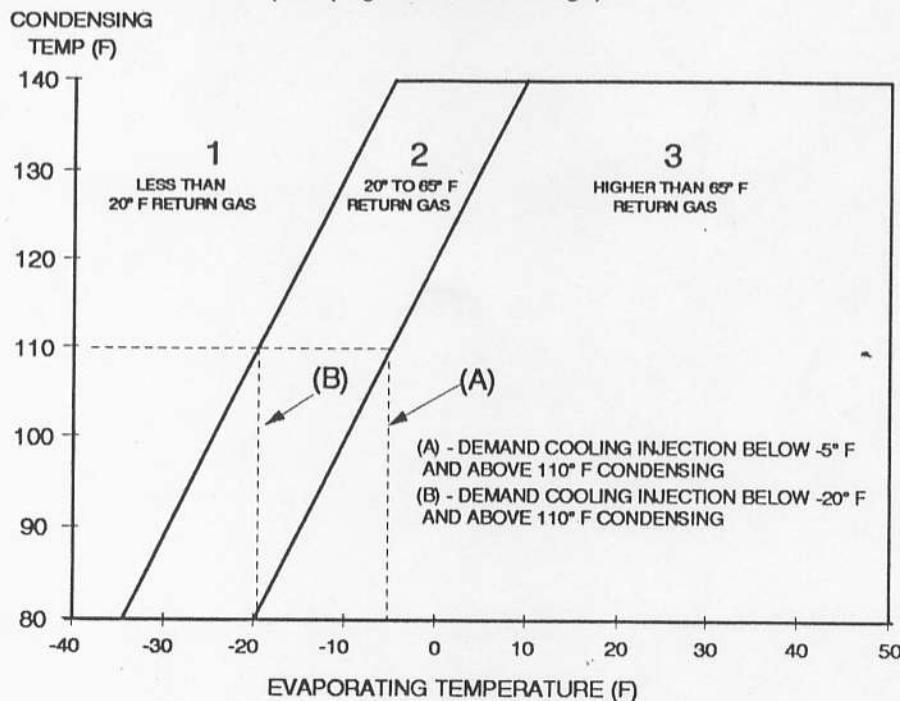

Figure 1
Use **Figure 1** to check Demand Cooling operating areas. **Figure 1** shows where injection begins for two return gas temperatures (65°F and 20°F). The arrows marked (A) and (B) on the graph show the lowest allowable evaporating temperatures, using as an example 110°F condensing temperature.
If suction temperature and condensing temperatures are lower than, or borderline to the injection areas of **Figure 1** go to **Step 5**.